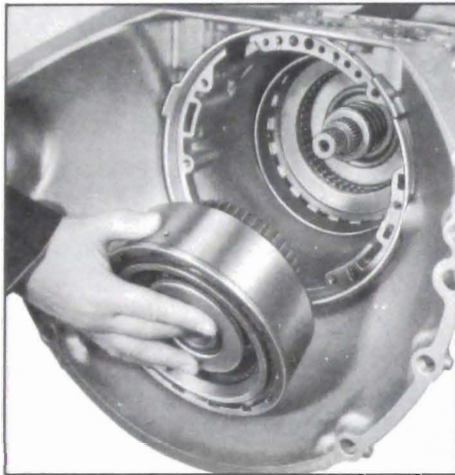

Figure 5-702
16. Install the direct clutch and intermediate sprag assembly. It will be necessary to twist the housing to allow the sprag outer race to index with the clutch drive plates. The housing hub will bottom on the sun gear shaft. See Figure 5-702.